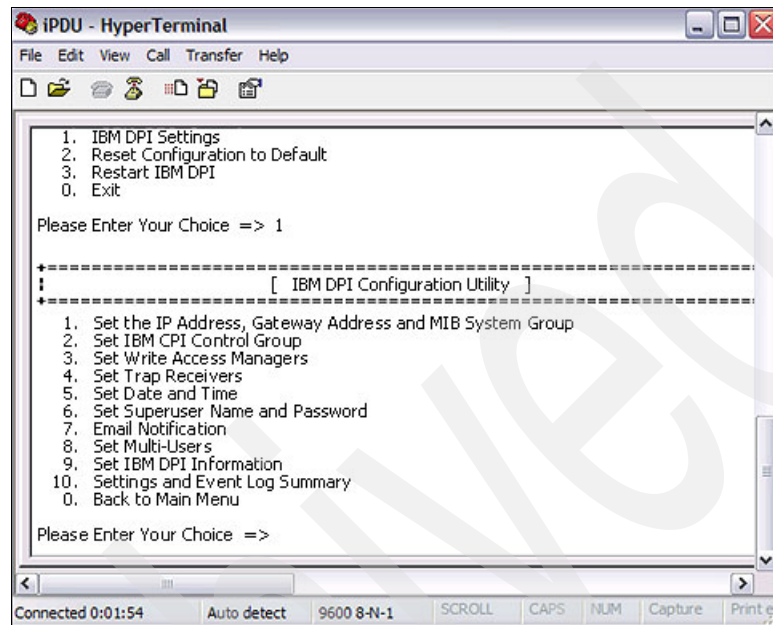

Figure 8-10 IBM DPI Settings menu
5. Select option **1. Set the IP Address, Gateway Address and MIB System Group** to configure the IP as shown in Figure 8-10. You can also set the other network information.